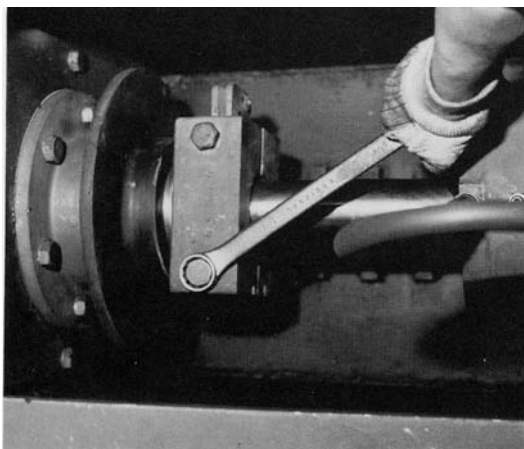

Figure 4-13 Removing piston rod clamp
4. Completely retract the extension rod and remove the piston rod clamp (Figure 4-13).